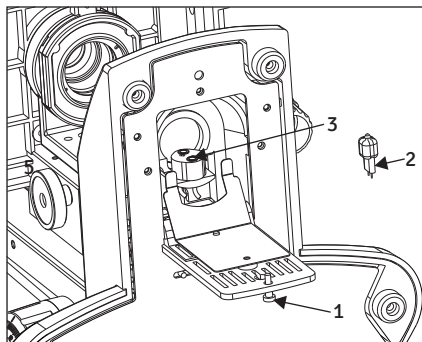

Fig. 15
1. Pull the lock knob (1) on the bottom to open lamp housing door (fig.15).
2. Hold the halogen bulb (2) without taking it out of the polyethylene bag so as not to taint the bulb with fingerprints and push the bulb into the pin holes on the socket (3). After attaching, remove the polyethylene bag.